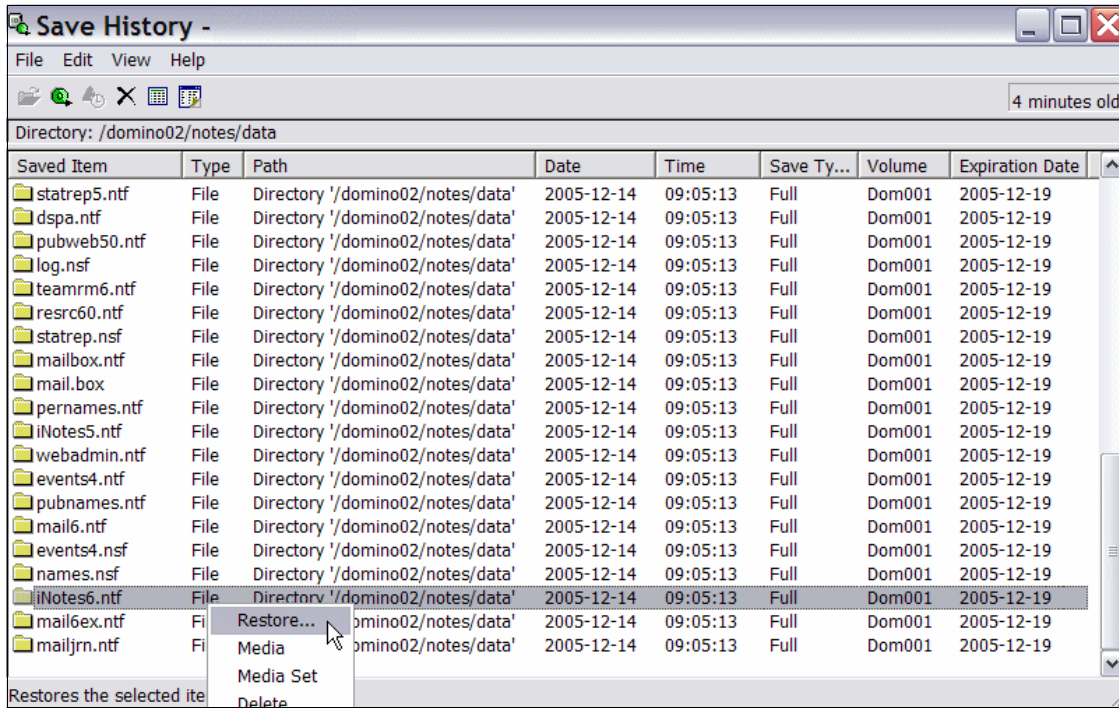

Figure 5-86 Restore Domino data with BRMS, Save History - select object to restore
6. This brings up all 48 objects that were saved in that portion of the save, as shown in Figure 5-86 on page 266.